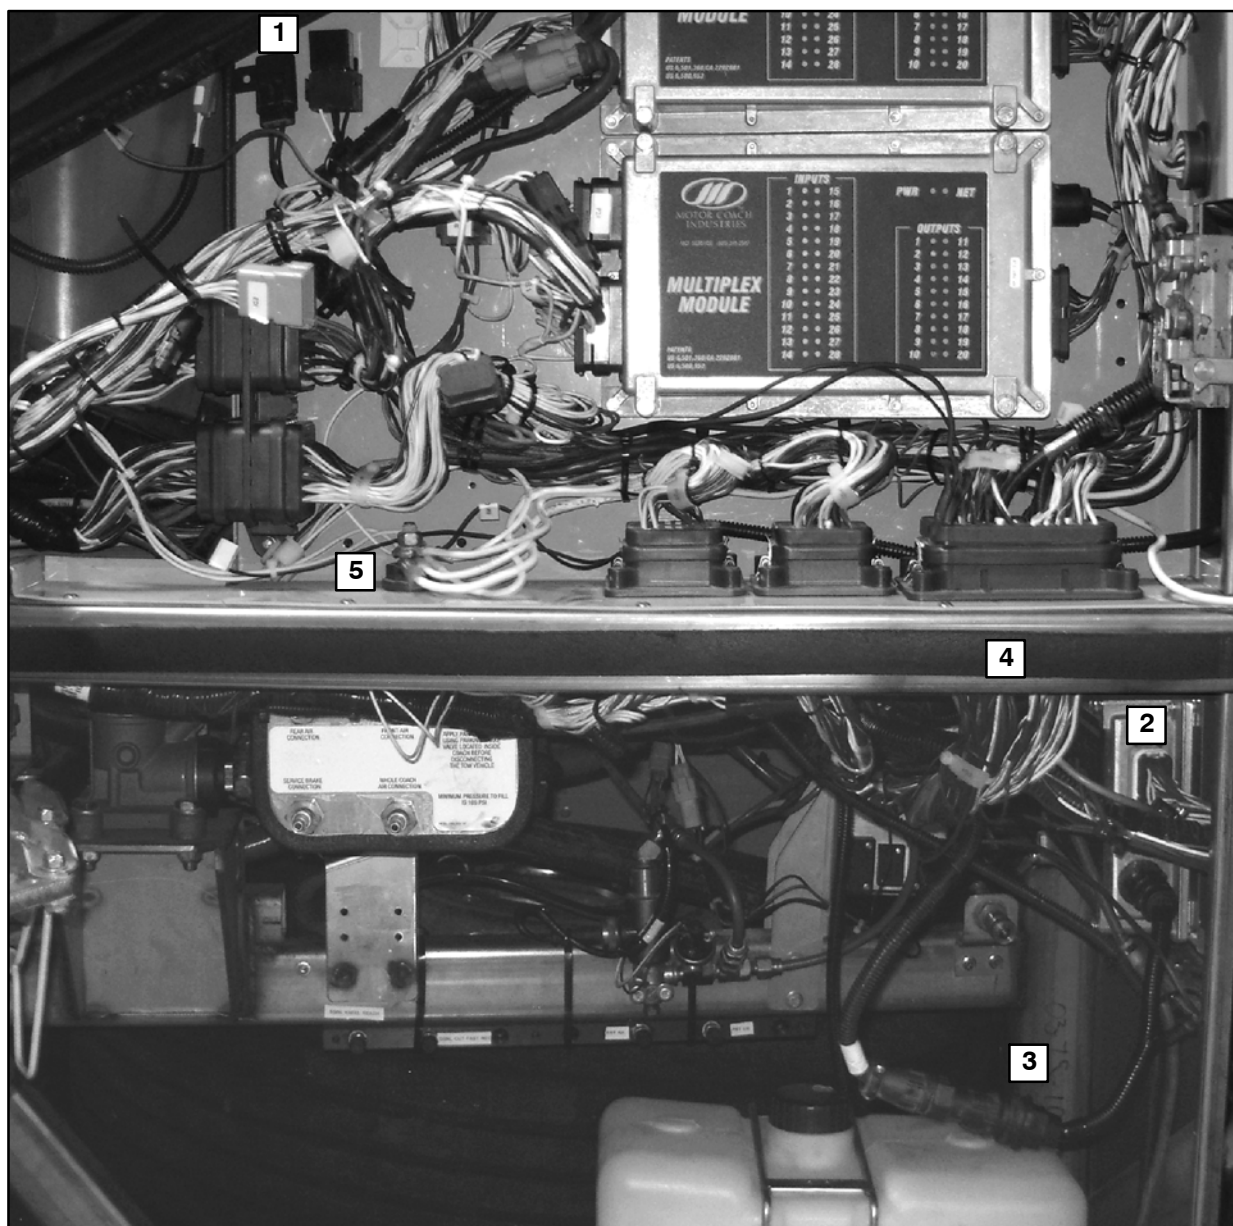

Figure 18. Front junction box and drag link compartments.
52. Connect ring terminal of wire 12441 onto Ground stud in the front junction box (refer to Figure 18).